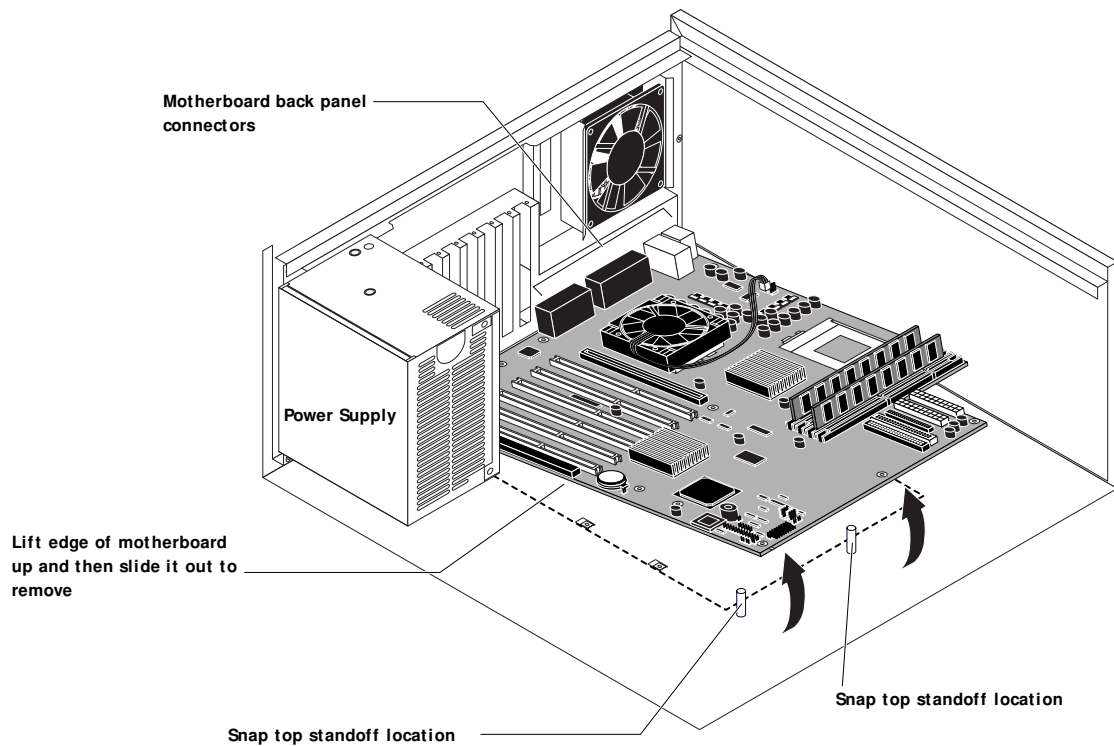

FIGURE 4-16 Removing the motherboard
4. **Lift the edge of the motherboard opposite the back panel connectors to remove the motherboard from the chassis (see Figure 4-16 on page 4-28).**
1. Angle the motherboard so the back panel connectors on the motherboard fit into the cutouts in the back of the chassis (see Figure 4-16 on page 4-28).
2. Align the mounting holes on the edge of the motherboard (opposite the back panel connectors) with the standoffs located in the base of the chassis (see Figure 4-16 on page 4-28).